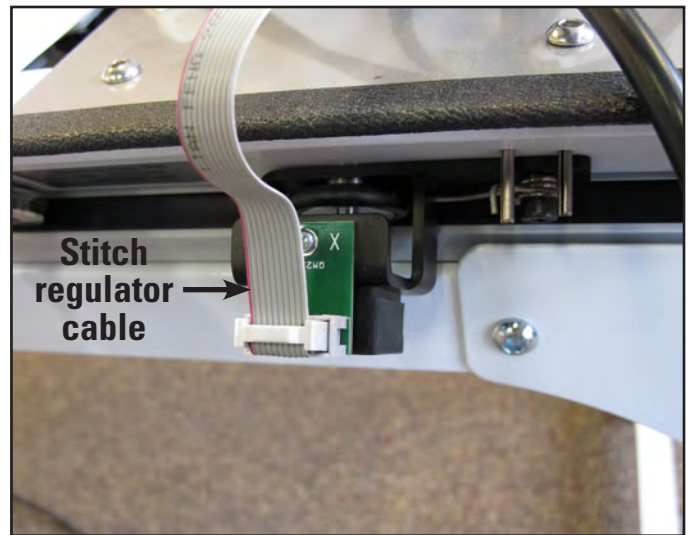

Figure 3.16
4. With one end of the stitch-regulator cable plugged into the machine's C-Pod and the middle connector plugged into the quilting machine's "Y" encoder, plug the other end of the cable into the carriage "X" encoder (**Figure 3.16**).